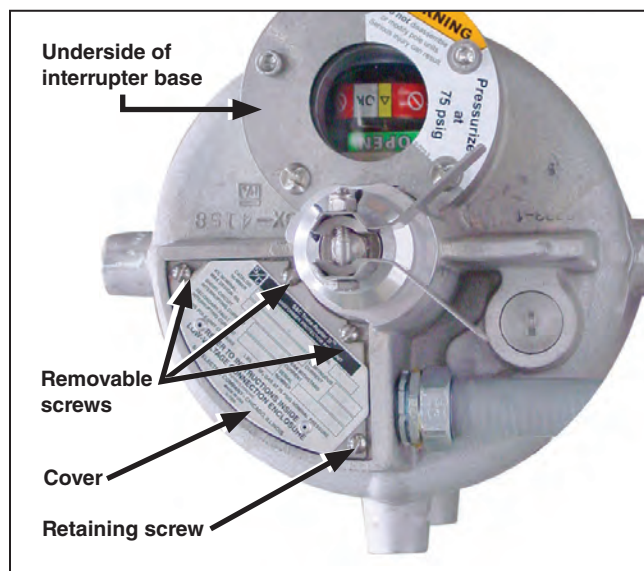

Figure 46. Remove the three removable screws from the interrupter electrical junction box cover. Loosen but do not remove the fourth screw.
STEP 3. Rotate the cover of the electrical junction box and replace the screws that were removed. Securely tighten all screws. See Figure 46. Then, reinstall the removed motor bracket. Torque all 1/2-inch bolts to 40-50 ft.-lbs. Torque all 5/8-inch studs to 70-80 ft.-lbs.